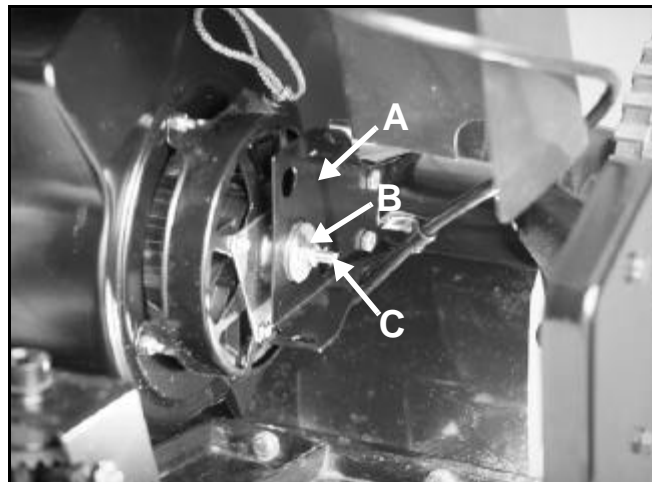

Figure 50 1854-17-2
6. The recoil side of the engine is supported by a bracket. Remove the bracket or remove the locknut holding the bracket to the recoil (it may be necessary to loosen the bracket to disengage it from the stud on the recoil) (Figure 50). Remove the 4 nuts around the crankshaft and slide the plate off the crankshaft.